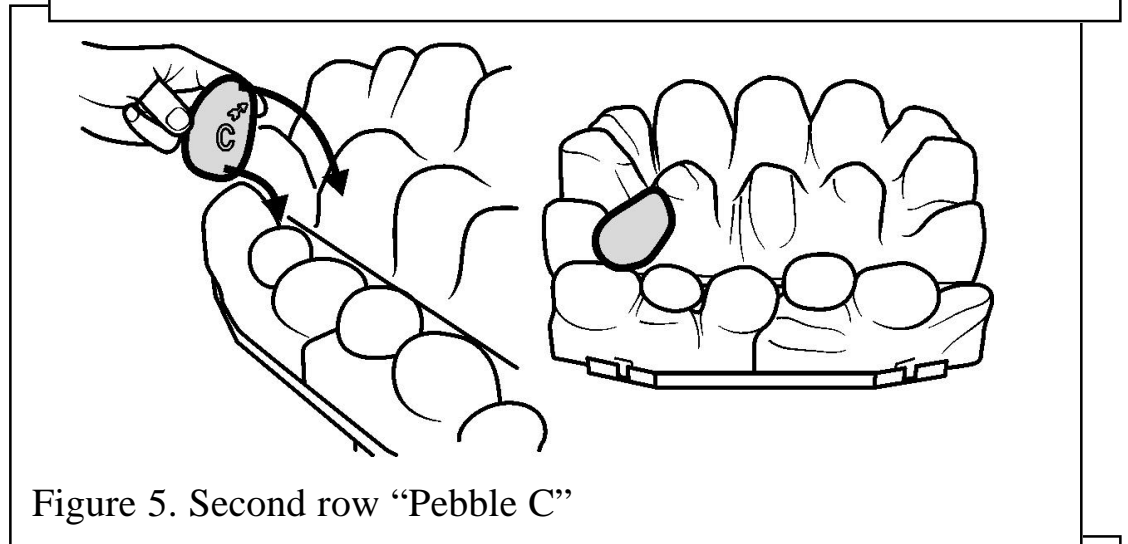

Figure 5. Second row "Pebble C"
7. Hold pebble 'C' upright with the arrow pointing to the top. Locate pebble 'C' as shown in figure 5.